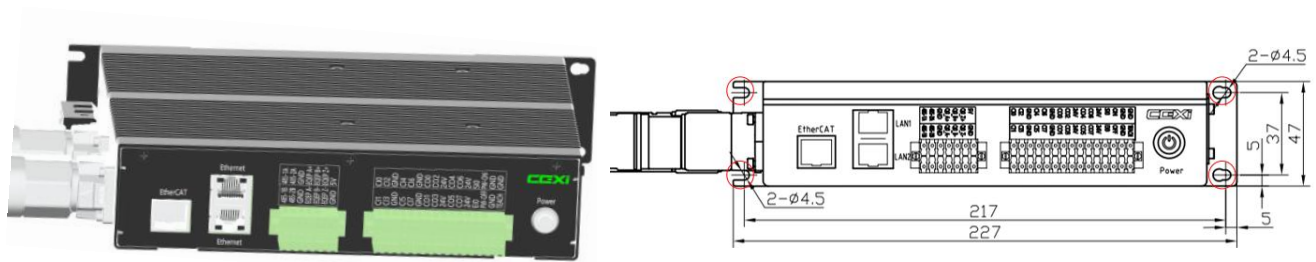

Figure 58 Ear mounting, unit mm
- Ear mounting: The mounting method and interface of the ear mounting are shown in Figure 58.